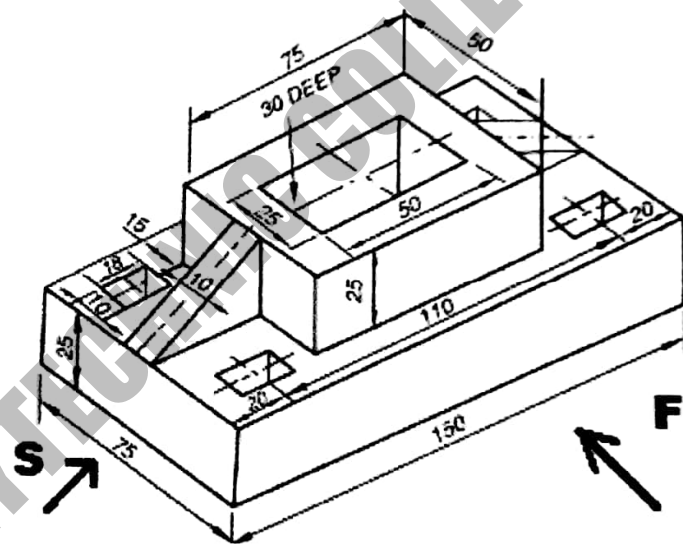

Fig 4
- X. Figure 4 shows a cast iron block. Draw the following views.